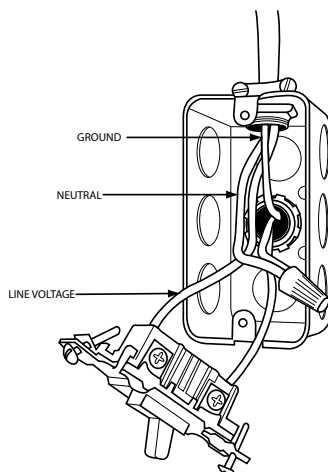

Fig. 36 – Field-Supplied External Electrical Box on Furnace Casing
5. Fasten the external electrical box to the furnace casing using two (2) sheet metal screws.
11. Connect field power and neutral leads to furnace power leads inside the external electrical box as shown in Fig. 36.
1. Drill two (2) 1/8-in. (3 mm) pilot holes through the dimples in the furnace casing near the 7/8-in. (22 mm) knockout or plug on the side of the casing. Do not remove the knockout or plug in the side of the casing.
3. Install two (2) screws through the outside of the casing to secure the J-Box bracket to the furnace casing.
9. Connect field power and neutral leads to furnace power leads inside the external electrical box as shown in Fig. 36.